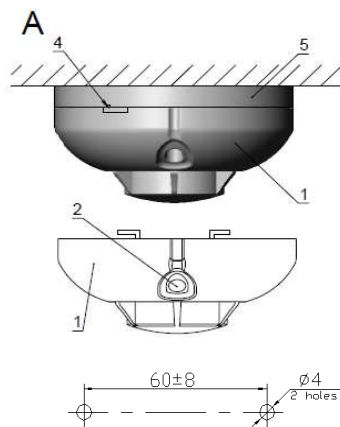

Figure 2
5.1 The detector is to be mounted to the surface of bearing structures using its base (see Figure 2). To install the detector base, drill two holes into the surface according to the drilling pattern in Figure 2 and attach the base by means of screws and wall plugs or tapping screws.